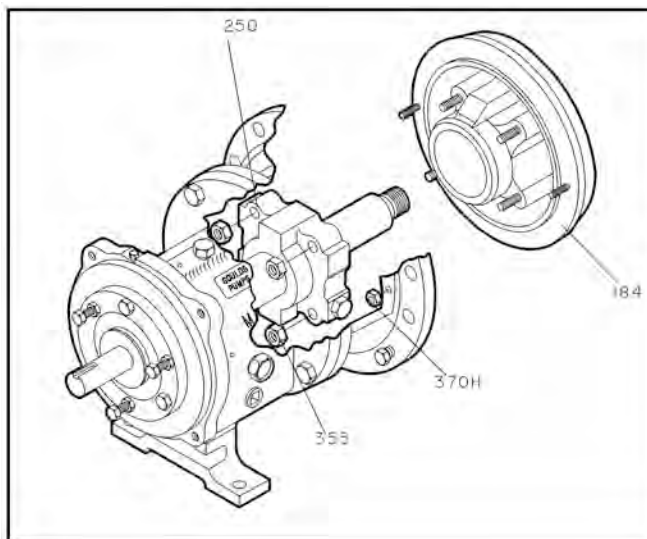

Figure 34:
1. Remove gland stud nuts (355).
3. Remove seal chamber (184) (Fig.34).